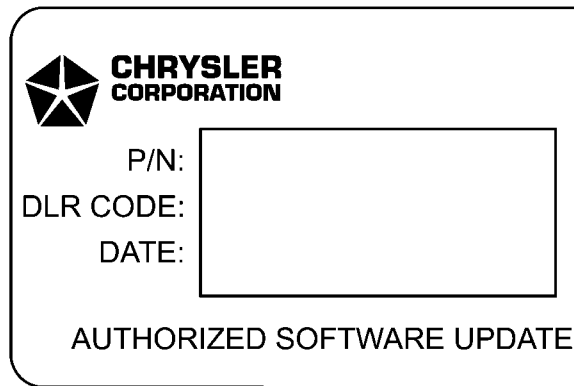

Fig. 2 AUTHORIZED SOFTWARE UPDATE LABEL
4. Type the necessary information on the “Authorized Modification Label” p/n 04275086AB and attach near the VECI label (Fig. 2).